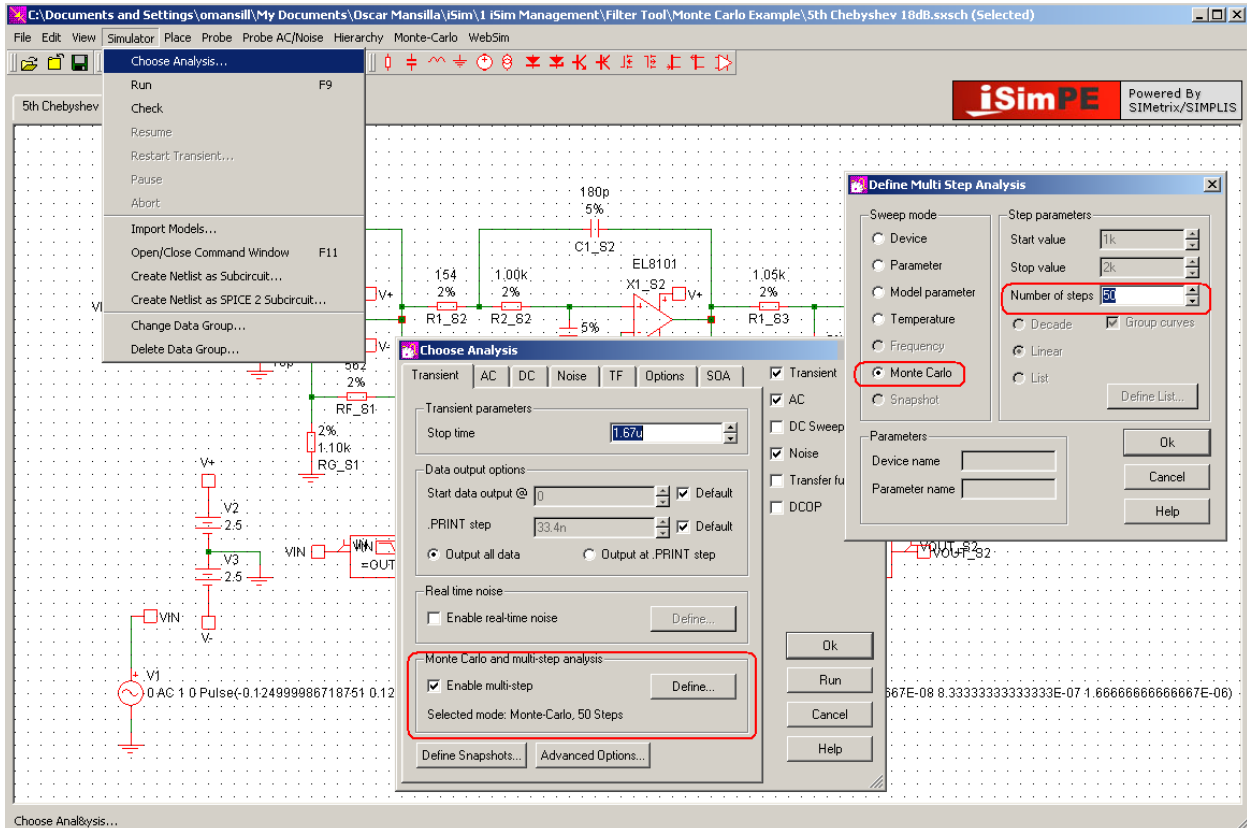

FIGURE 42. ENABLING MONTE CARLO ANALYSIS
5. In the "Sweep Mode" section you will see Monte Carlo is selected and in the "Step Parameters" section enter the number of steps to simulate. In this example we have set it to 50 steps (Figure 42).
Looking at the Figure 43, you can see the envelope of the Monte Carlo simulation with the component tolerances specified as in Figure 42. A sense of the impact of the component variation can be studied on key design parameters such as the overshoot, settling time, and delay of the filter. Similarly, AC plots can be studied for pass band ripple and cut off frequency variation due to the component tolerance. If these results indicate too much performance spread, a tighter tolerance on the R's and C's can be selected and the Monte Carlo analysis rerun. The op amp simulation models do not currently support parameter variation through Monte Carlo techniques. However, the Active Filter Designer attempts to design in enough performance margin to each stage that the amplifier BW variations should be a minor effect.